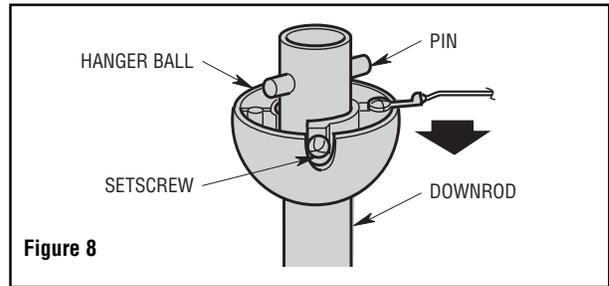

Figure 8
9. Remove the hanger ball by loosening the setscrew in the hanger ball until the ball falls freely down the downrod (Figure 8). Remove the pin from the downrod, then remove the hanger ball. Retain the pin and hanger ball for reinstallation in Step 14.